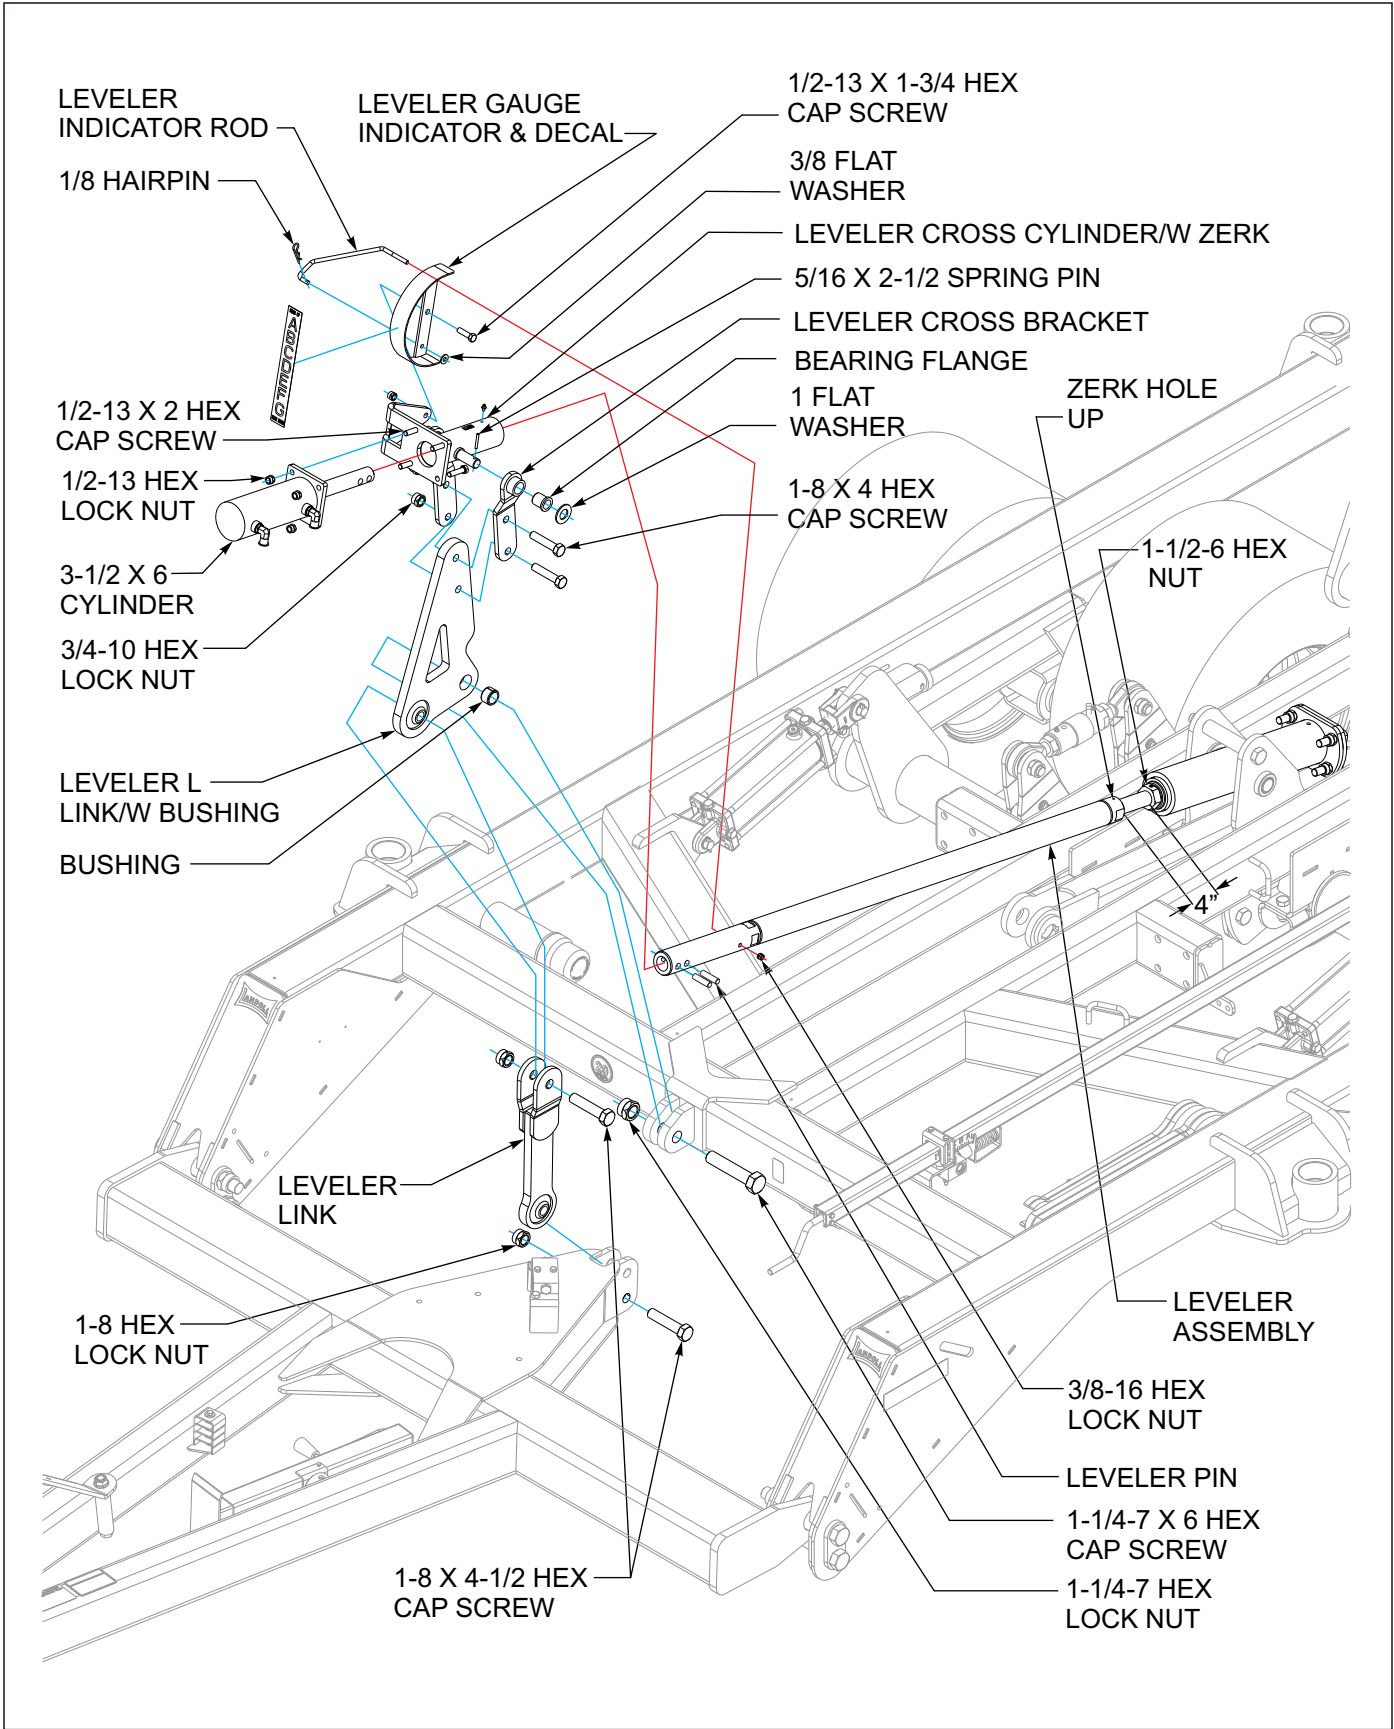

Figure 3-3: Leveler Assembly Installation
1. Be sure bushing is in the leveler L link (**See Figure 3-3.**)
5. Slide leveler cross cylinder/w zerk over front end of leveler assembly until 2 holes are through plate (**See Figure 3-3.**) Slide 3-1/2 x 6 cylinder onto front end of leveler assembly until the 2 holes in cylinder are aligned with 2 holes in leveler and slide the leveler pins through aligned holes. Slide leveler cross cylinder assembly back though until plates on two cylinders are aligned and secure with 1/2-13 x 2 hex cap screws and 1/2-13 hex lock nuts.
9. Attach level indicator as shown (**See Figure 3-3.**)